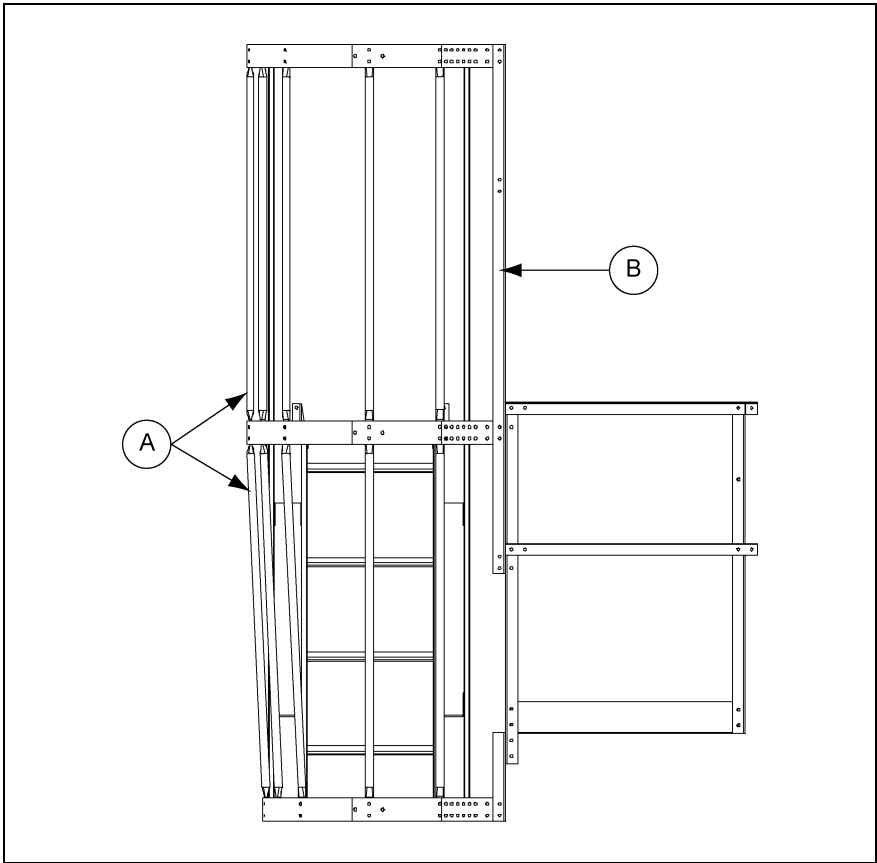

Figure 10K Vertical Supports
After all three (3) hoop assemblies are in place, attach the 48" vertical supports from hoop assembly to hoop assembly as shown. This will require ten (10) supports, five (5) between each set of hoops. The 2nd set of vertical supports will need to be bent at the flat area to allow for the tapering of the bottom hoop assembly. Use 5/16" x 1" bolts (unless otherwise noted) with the head of the bolt to the inside of the safety cage. (See Figure 10K.)